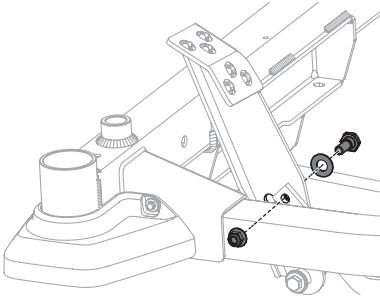

Fig. 33
2. Remove the hex bolt, washer and hex nut near the center of the pedal assembly (Fig. 33).
4. Re-install the hardware previously removed and torque the nut to 28-35 ft-lbs (38-47 N-m) (Fig. 33).